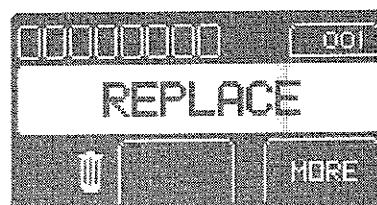

Figure 10 Replace Message
- If the battery pack fails to pass the state-of-health test, a REPLACE message and symbol will appear (see figure 10). The yellow indicator light will also blink slowly. See *Troubleshooting Guide* section for assistance.